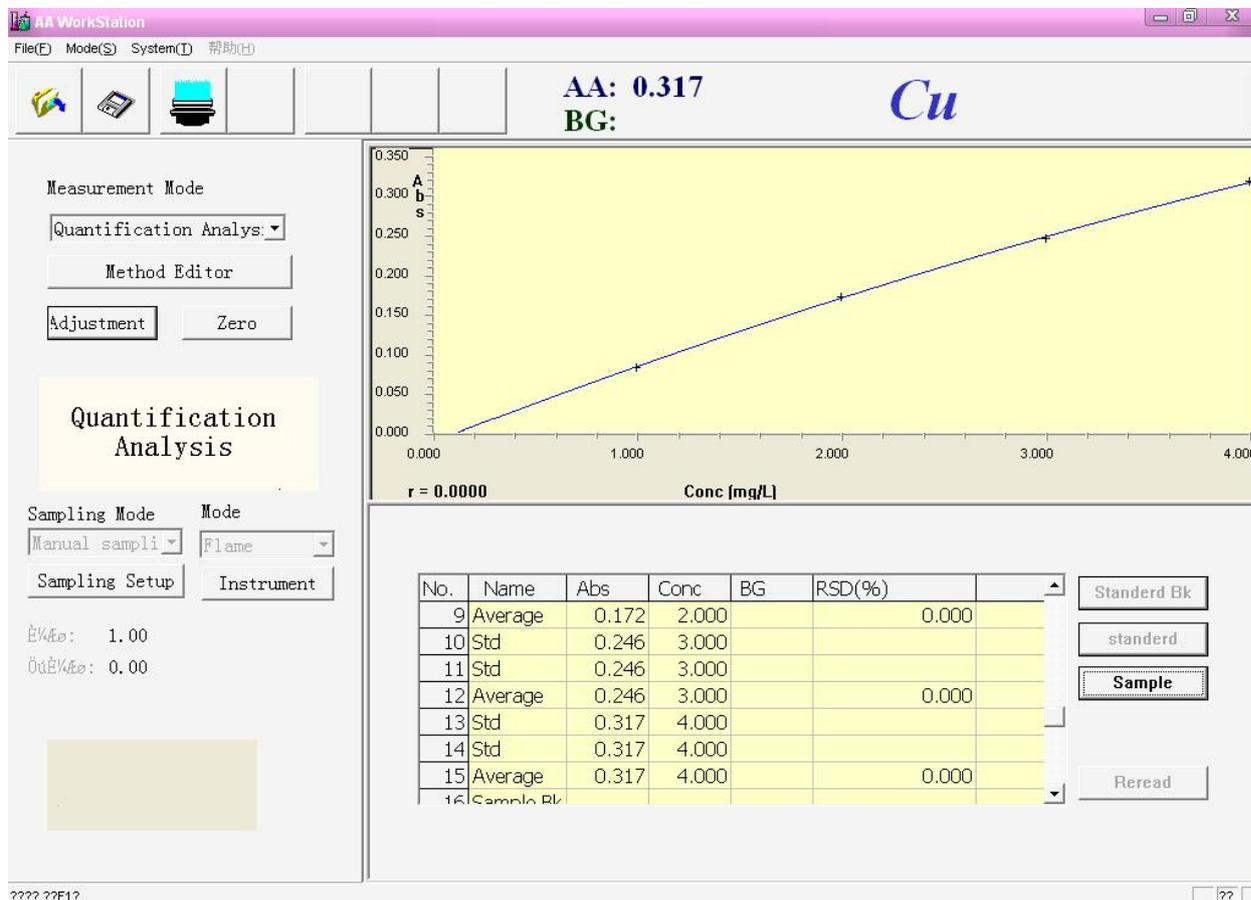

Figure 5-19
9. After the standard sample testing, display the figure 5-19